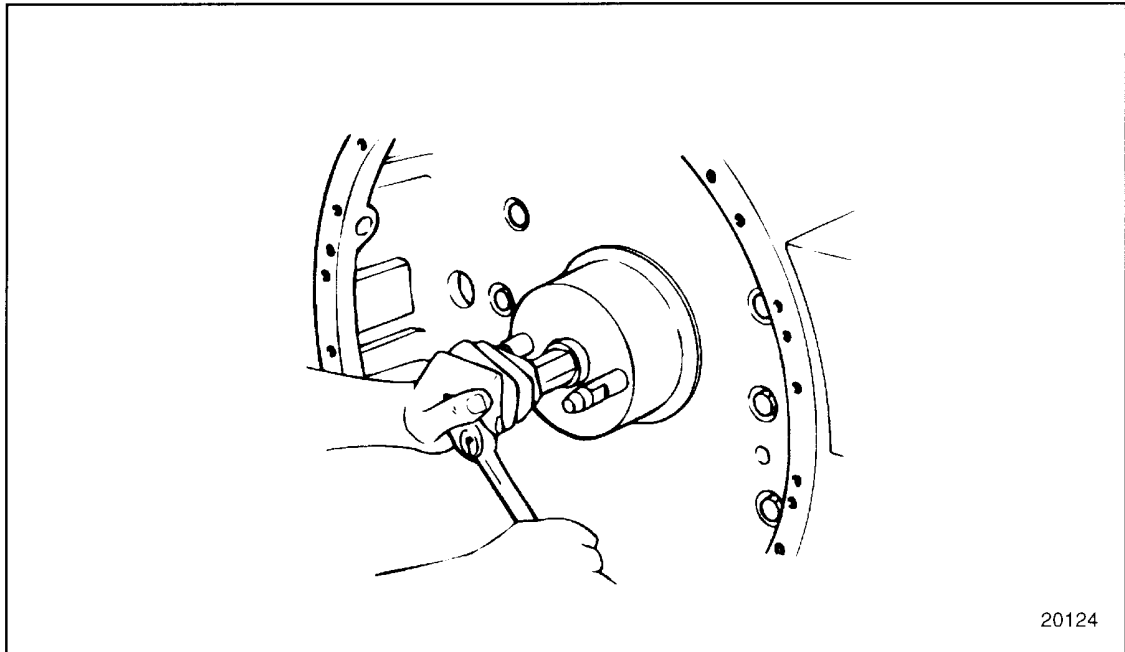

Figure 1-136 Oil Seal and Sleeve Installation
5. Tighten the hex nut by hand until all the slack is taken up. Use a ratchet and socket to tighten the hex nut, and install the wear sleeve to the crankshaft and the oil seal to the flywheel housing and/or gear case cover. See Figure 1-136.